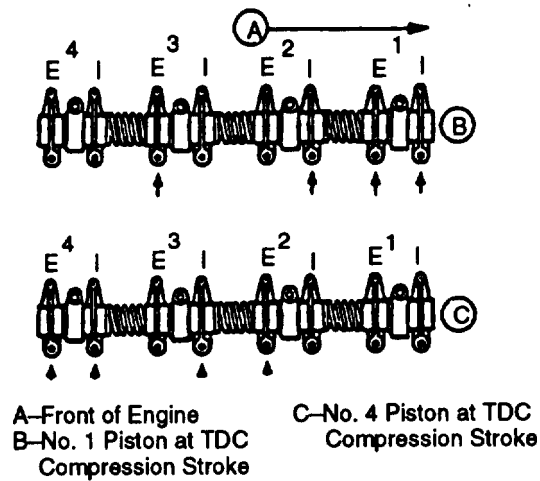

FIGURE 3-95. Adjusting Valve Clearance
Firing order is 1-3-4-2. Intake and exhaust valve locations are designated I and E in FIGURE 3-95.
**Refer to FIGURE 3-95 for engine valve locations.**